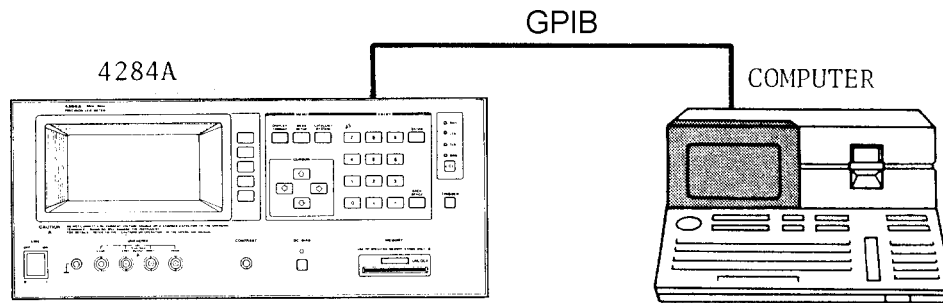

Figure 10-8. GPIO Interface Test Setup
2. Set up the equipment as shown in Figure 10-8. Use the computer's interface Select Code (7).